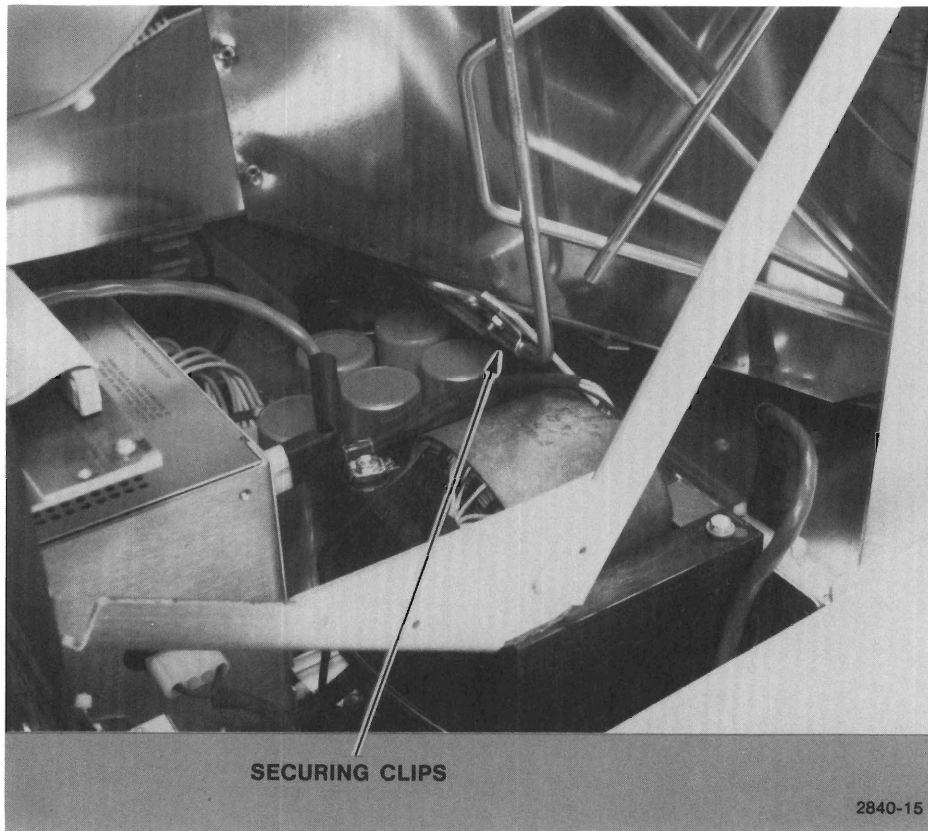

Figure 3-26. Side View Showing Securing Clamps.
4. Remove two crt module securing clamps from the chassis bulkhead under the crt module. See Figure 3-26.